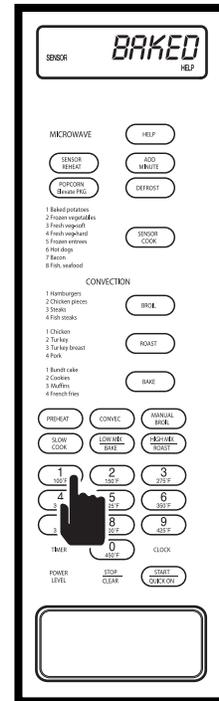

Figure 3-57.
2. Press desired food number. For example: A baked potato. Press the number 1 key. Display will flash "BAKED - POTATO - PRESS - START" (See Figure 3-57)